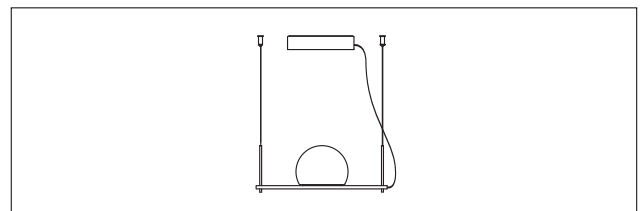
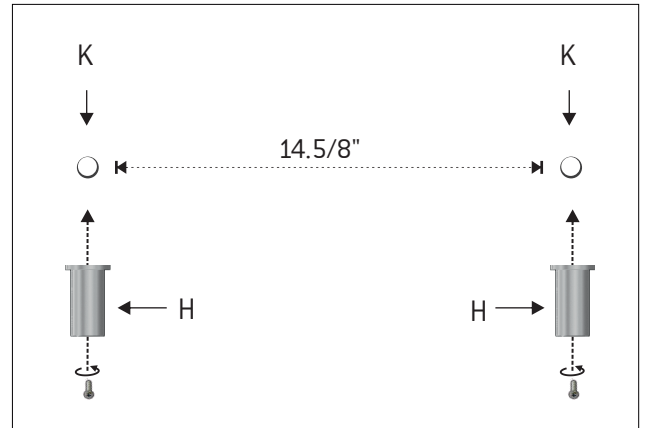
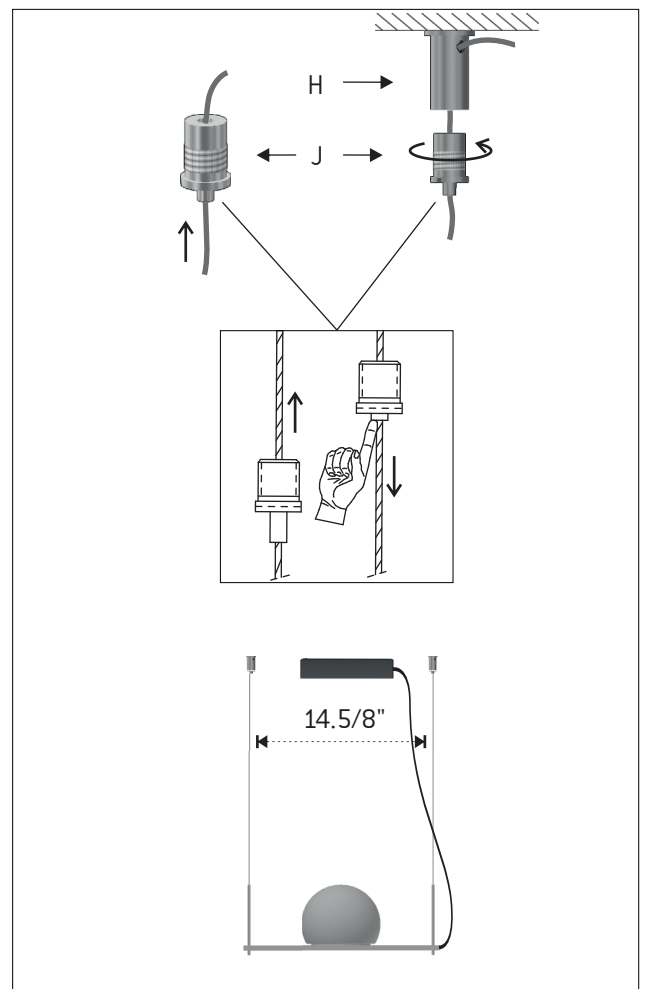

Figure 1A
Figure 5
Figure 6
- To be mounted facing up (figure 1A) go directly to step 5 (figure 5)
5 - Mark one spot (K) on the ceiling at a distance of 14.5/8" (372mm) between them and fix the two tensors (H) in the mark. Figure 5. (See figure 6 to see the result)
6 - Insert the steel cables into the gripper supports (J) and then insert them through the side hole of the tensors (H). Again screw the gripper support to the tensor and adjust the cable to the desired length. Figure 6